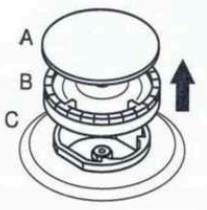
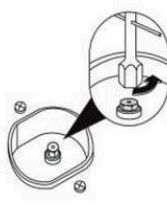

Figure 19
Figure 19.1
- Remove the burner cover and burner as shown in the Figure 19. Remove the injector by help of 7's socket screw driver as shown in the Figure 19.1.